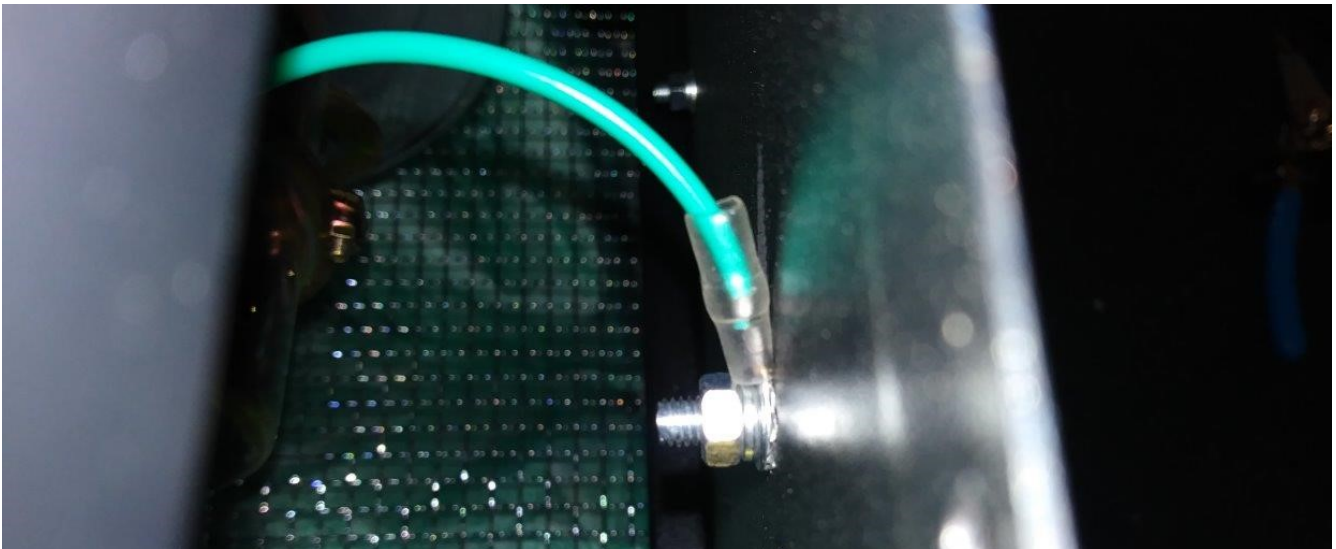

Figure 4: Inside of grounding bolt.
Gently lift the front panel up and slide it towards the bottom of the unit. This exposes the inside of the grounding bolt, shown in Figure 4 below.
5. Using the Phillips-head screwdriver, as well as something to hold the nut shown in Figure 4 above (pliers, socket, adjustable wrench, etc.), loosen and remove the nut, then remove the grounding wire and bolt. Do not drop the washers. If you do drop them, retrieve them from the grating, or turn the unit over. If need be, remove the inner and outer filter. This will let you retrieve the washers from the bottom.